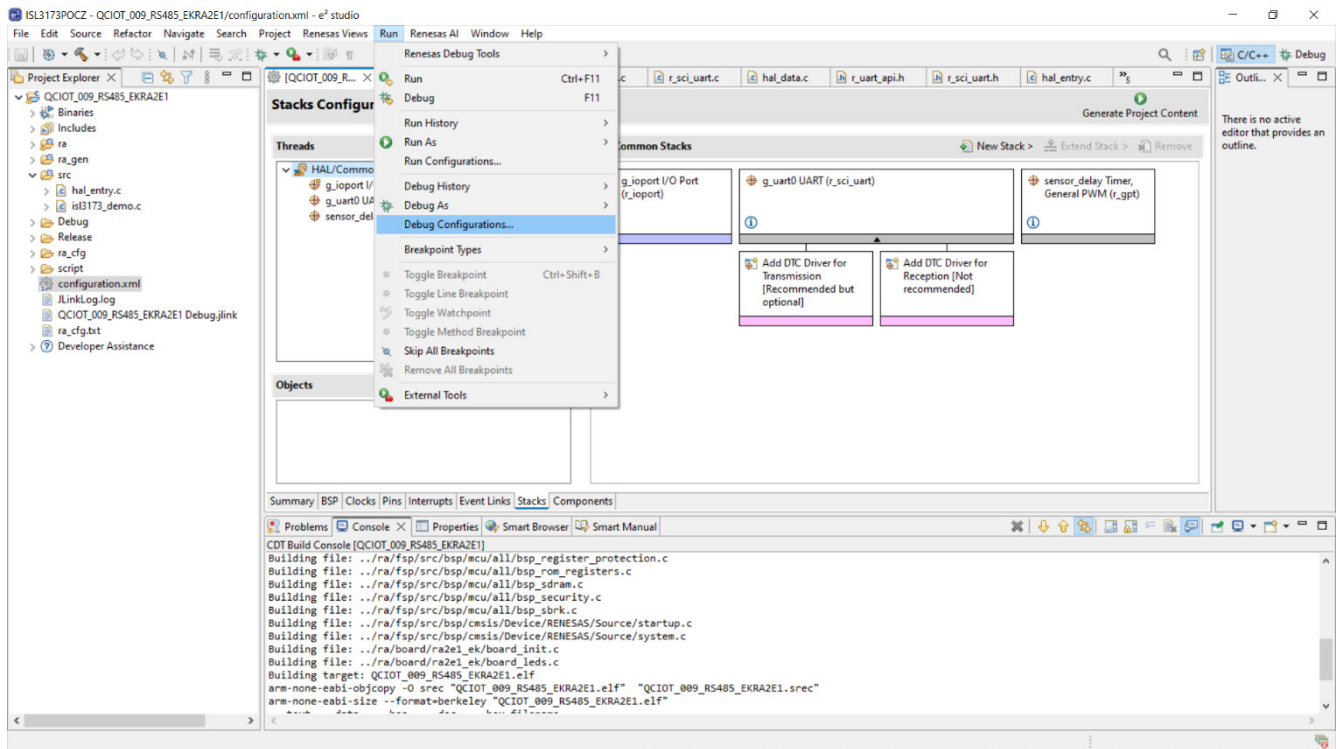

Figure 15. Debug Configurations Window
2. From the Menu bar, select **Run** → **Debug Configurations** (see Figure 15).